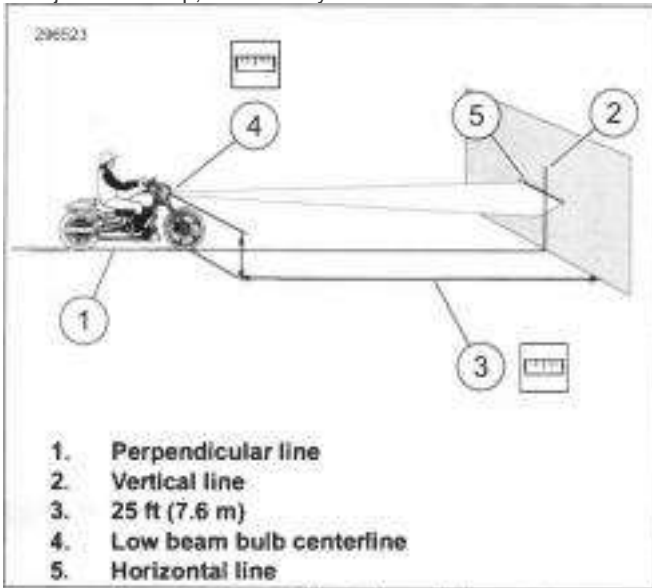

Figure 7-59. LED Headlamp Alignment
1. See Figure 7-59. Park the motorcycle on a line (1) perpendicular to the wall.